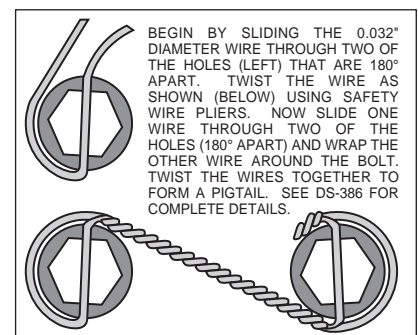

Figure 3. Safety Wire Diagram
- Identify the left and right caliper mounting brackets (1). Both brackets will be offset to the rear of the vehicle with the threaded inserts and the beveled bolt holes facing the outside of the vehicle. Apply red *Loctite*® 271 to bolt threads (2 and 5) before assembly of the caliper bracket (1) to backing plate face of spindle. Insert the two upper mounting bolts (2) and the lower mounting bolt (5) through the caliper mounting bracket (1). Place one upper mounting bracket spacer (3) over each of the upper mounting bolts (2). Slide a lower mounting bracket spacer (6) over the lower mounting bolt (5). Position the caliper mounting bracket (1) onto the spindle, slipping each of the three mounting bolts (2 and 5) through the spindle holes. The lower ball joint may have moved when the original bolts were removed. Re-alignment may be necessary for the lower bolt (5) to slide through. Install two lock nuts (4) on the upper mounting bolts (2) and finger tighten. Install one lock nut (7) on the lower mounting bolt (5) and finger tighten. Torque two bolts (2) to 47 ft-lb. Torque bolt (5) to 65 ft-lb. **NOTE:** Be sure the heads of the caliper bracket (1) insert nuts are facing outward toward the wheel.
- Install five new wheel studs (8) into the hub (9). Torque to 77 ft-lb. **NOTE:** There are two five lug patterns in the hub (5 x 4.00 and 5 x 4.50). Make sure of the correct hole pattern for the correct wheel application before installing studs into hub.
- Pack the large inner bearing cone (10) with high temperature disc brake bearing grease (available from your local auto parts store) and install into the backside of the hub (9). Install the grease seal (11) by pressing into the backside of the hub (9).
- Attach rotor adapter (12) to rotor (13) using six bolts (14). Torque bolts to 180 **in-lb**. Safety wire bolts (14) using standard 0.032 inch diameter stainless steel safety wire as shown in Figure 3. Please refer to Wilwood's data sheet DS-386 (available at [www.wilwood.com/Pdf/DataSheets/ds386.pdf](http://www.wilwood.com/Pdf/DataSheets/ds386.pdf)) for complete safety wire installation instructions. **NOTE:** The flat side of the rotor (13) lugs face toward the rotor adapter (12) with the dished side of the rotor adapter (12) facing away from the rotor (13).